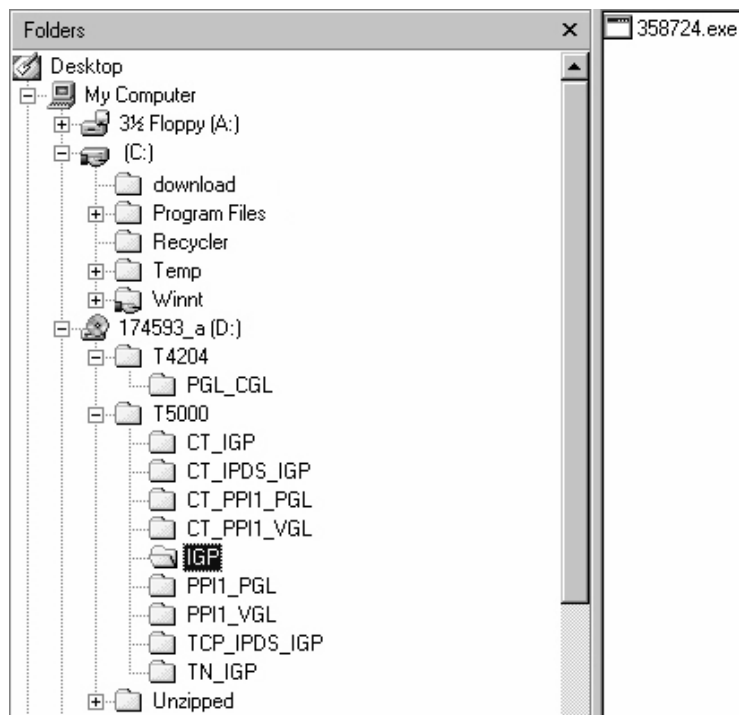

Figure 5. Navigating to the Appropriate Emulation File on the CD
17. Using Windows Explorer, navigate to the appropriate file on the CD based on the printer model number and desired emulation, e.g., T5000 ▶ IGP. (See Figure 5.)